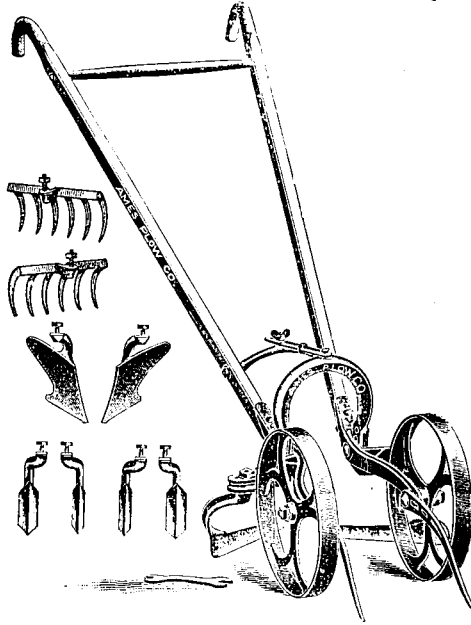

FIG. 3. New Universal Double-Wheel Hoe, Cultivator and Plow.
*The "New Universal Hand Double-Wheel Hoe, Cultivator and Plow,"* shown in Fig. 3, is also made by the Ames Plow Co., Boston. This implement is of recent introduction and has all the latest improvements in this line. It is furnished with the usual tools, such as scuffle-hoes, cultivator plates, plows and leaf guards. A feature that